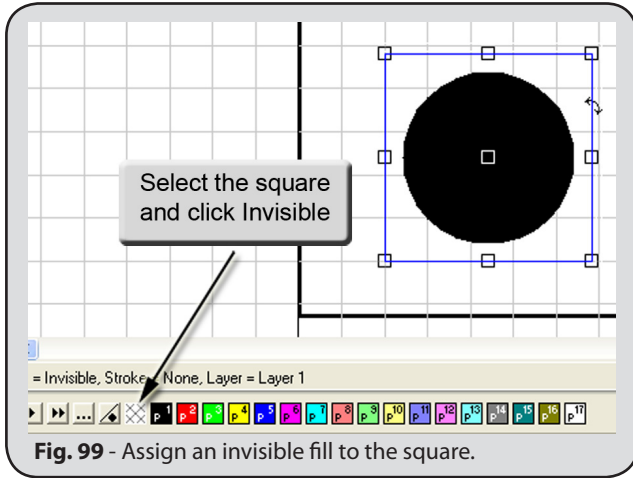

Fig. 99 - Assign an invisible fill to the square.
4. Draw a square around the circle and assign an Invisible fill (Fig. 99).